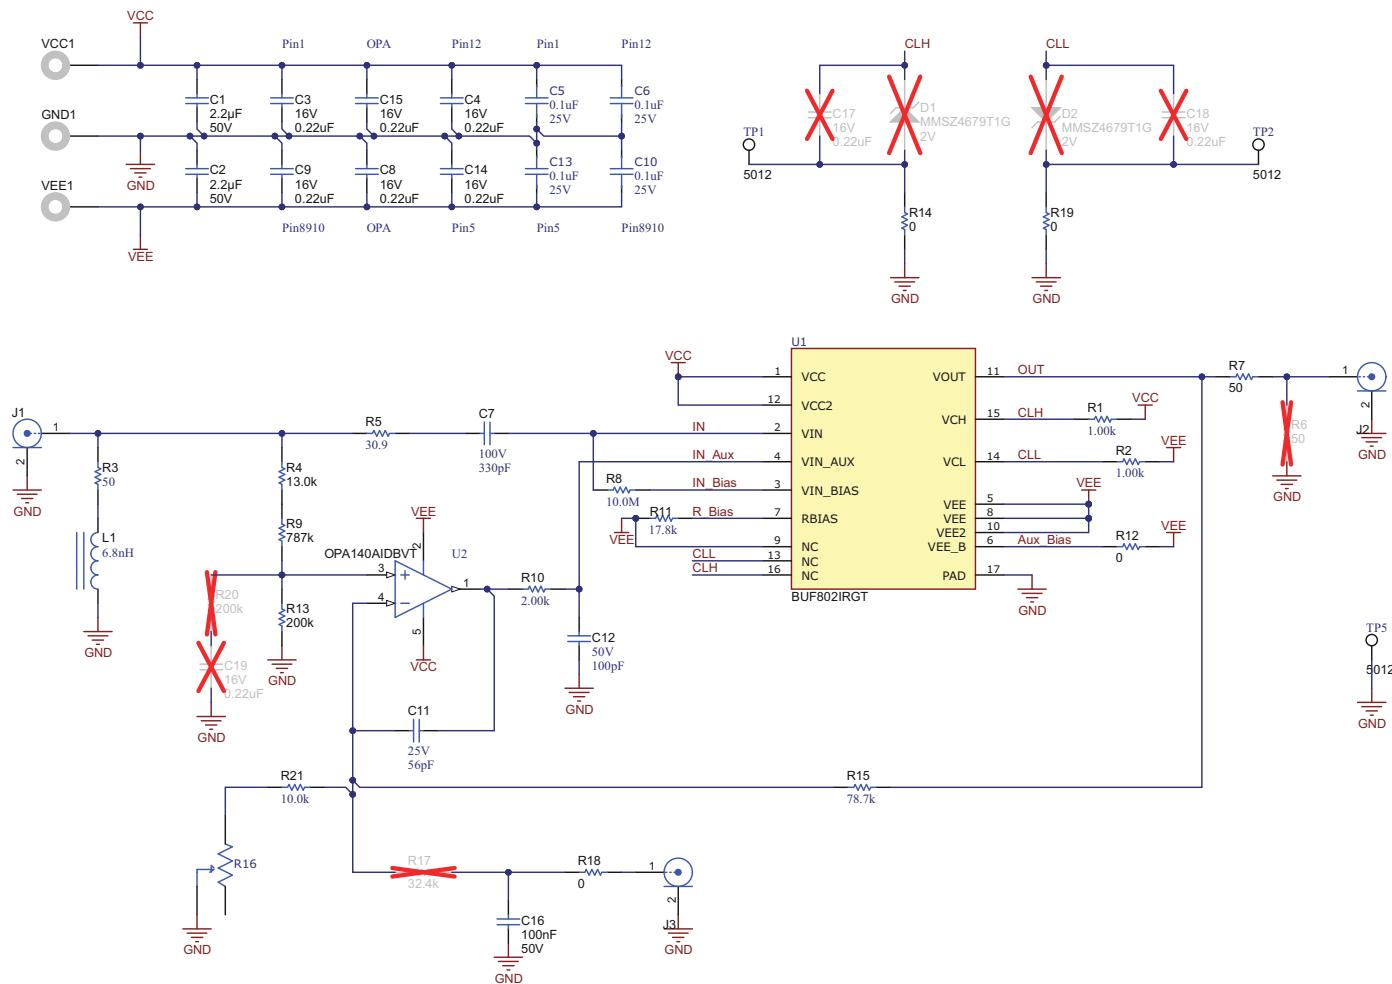

Figure 8-10. Layout Example: Schematic for Layout Reference
- **Peaking in the S21 transfer function:** keeping the trace length minimum is of prime importance to prevent peaking in the S21 transfer function of the BUF802. The trace inductance can form a resonant circuit with the input capacitance of the BUF802, causing peaking in the S21 response. Add a small resistor (R5 in Figure 8-10) in series with the dc blocking capacitor to dampen the LC resonance created by the trace inductance and the input capacitance of the BUF802. Choose series capacitors (C7 in Figure 8-10) with low equivalent series inductance (ESL) to minimize total inductance.
- **Power-supply bypass capacitors:** mount the power-supply bypass capacitors as close to the supply pins as possible and on the same side of the PCB as the BUF802. As shown in Figure 8-10, choose low-inductance LICC capacitors (C5, C6, C13, and C10) to minimize high-frequency impedance between the BUF802 and the bypass capacitors. Use multiple vias between the bypass capacitor and GND to reduce series inductance. As shown in Figure 8-10, also use multiple vias to GND on the 50- $\Omega$  input termination resistor (R3). Connect the bypass and termination vias to a solid GND plane.